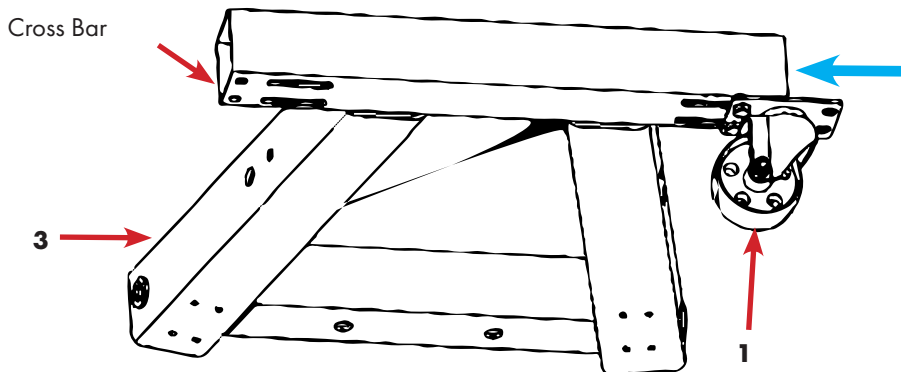

fig.5
- Slide the rollers into a position where the holes in the rollers align with the holes in the π carrier, fig.5 next page.
- Tighten all 4 nuts firmly, fig. 5.